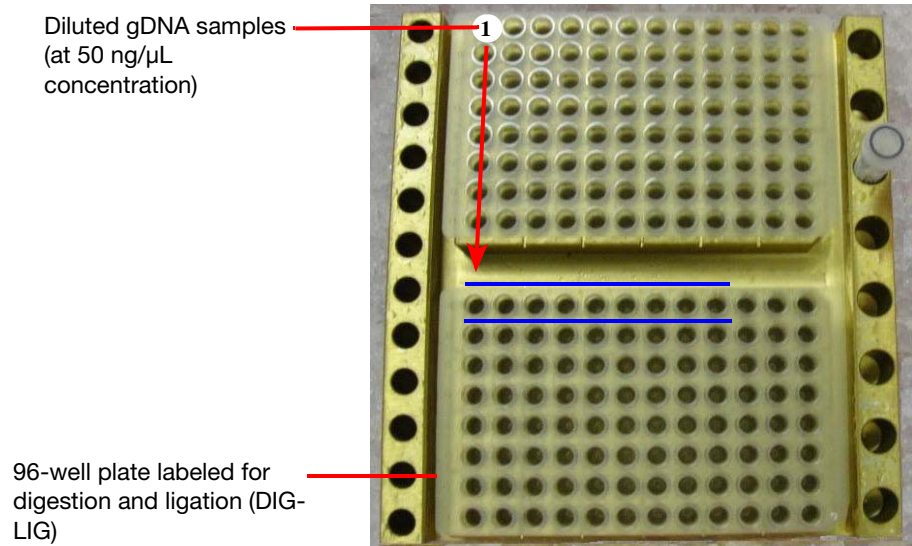

Figure 2 Transfer samples from gDNA Plate to DIG-LIG plate
1. Mark 96-well plate (Figure 2).
4. Transfer 5 μ L of first sample from gDNA stock plate to well A1 of DIG-LIG plate; transfer all samples in same way (Figure 2).